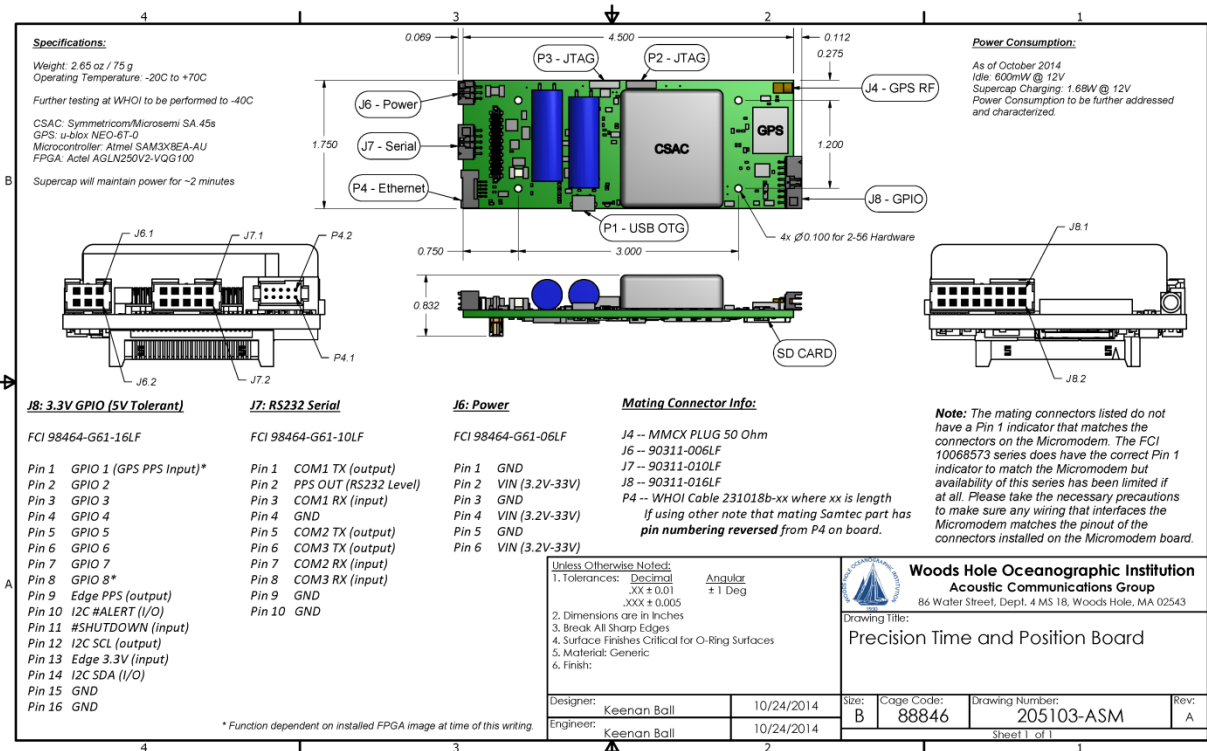

Figure 1: Precision Time and Position Board
1. Connect a GPS antenna cable to J4 (see Figure 1 for pinouts).